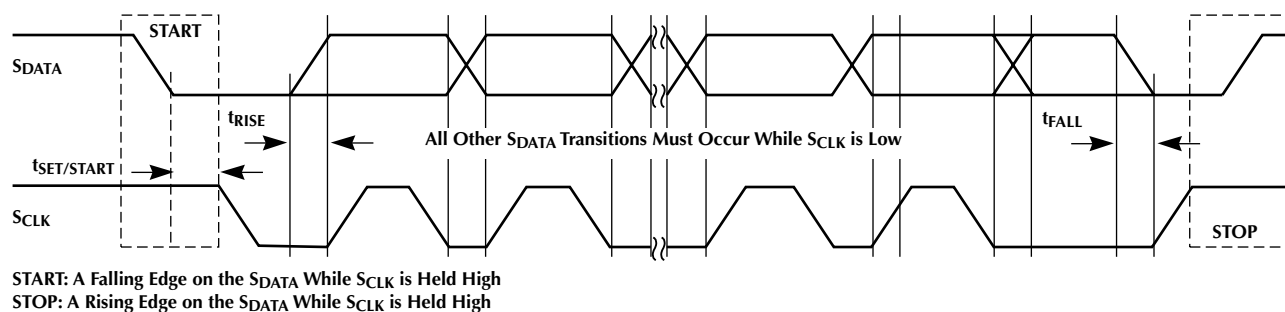

Figure 15. Definition of START & STOP on Serial Data Bus
**Device Addressing:** Figures 15, 16, and 17 show the physical waveforms generated in order to address the ML6461. There are six basic parts of the waveform:
**Device & Function Addressing:** Figures 15, 16, and 17 show the register address procedure of the ML6461.